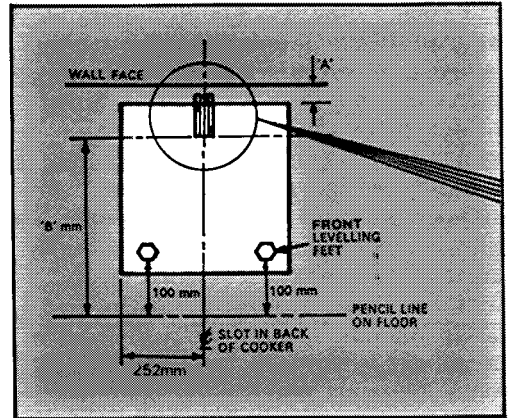
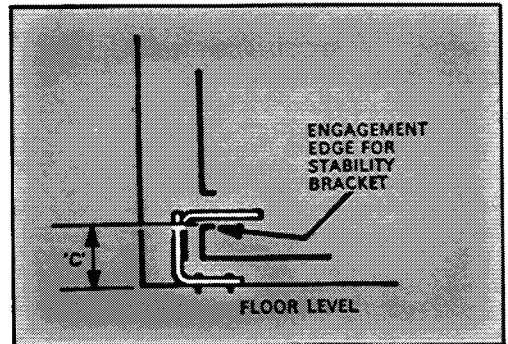

Fig. 2A
Fig. 2B
2. Mark off 252mm from the left-hand side of the cooker as shown in Fig. 2A, this is the centre line of the bracket fixing.
3. Draw a line 100mm from the front edge of the levelling feet (See Fig. 2A) and remove cooker from its position. Mark off dimension 'B' in Fig. 2A on the centre line of the bracket to locate the front edge of the lower bracket. Dimension 'A' = 35mm (Rear edge of splashplate to wall). Dimension 'B' = 480mm. Fix lower bracket (with two fixing holes) to the floor on cooker centre line, then measure height from floor level to engagement edge on back of cooker, dimension 'C' of Fig. 2B.
Re-position cooker and check that top bracket engages into cooker back to a depth of at least 100mm as shown in Fig. 2B.